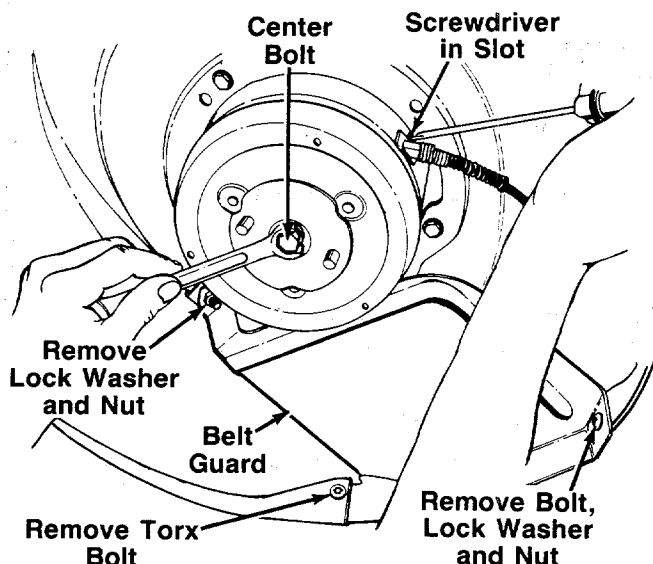

FIGURE 26.
- a. Insert a screwdriver into the slot provided in the blade brake/clutch housing where the control cable enters the housing. See figure 26.
8. Remove belt guard by removing the lock washer and hex nut shown in figure 26. Then remove one Torx bolt, using a #27 Torx driver. A 9/64" Allen wrench may also be used. Then remove one bolt, lock washer and nut as shown.